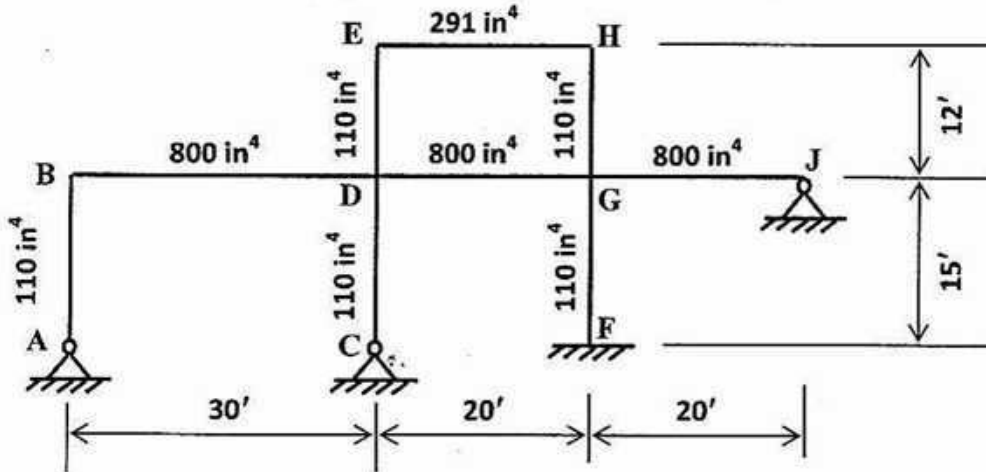

Fig. 5
8. Determine the effective length coefficients for the columns of the frame shown in Fig. 5. The moments of inertia in  $\text{in}^4$  for the columns and beams are shown in the figure. Annexure-4 provides necessary nomographs. 16 2/3